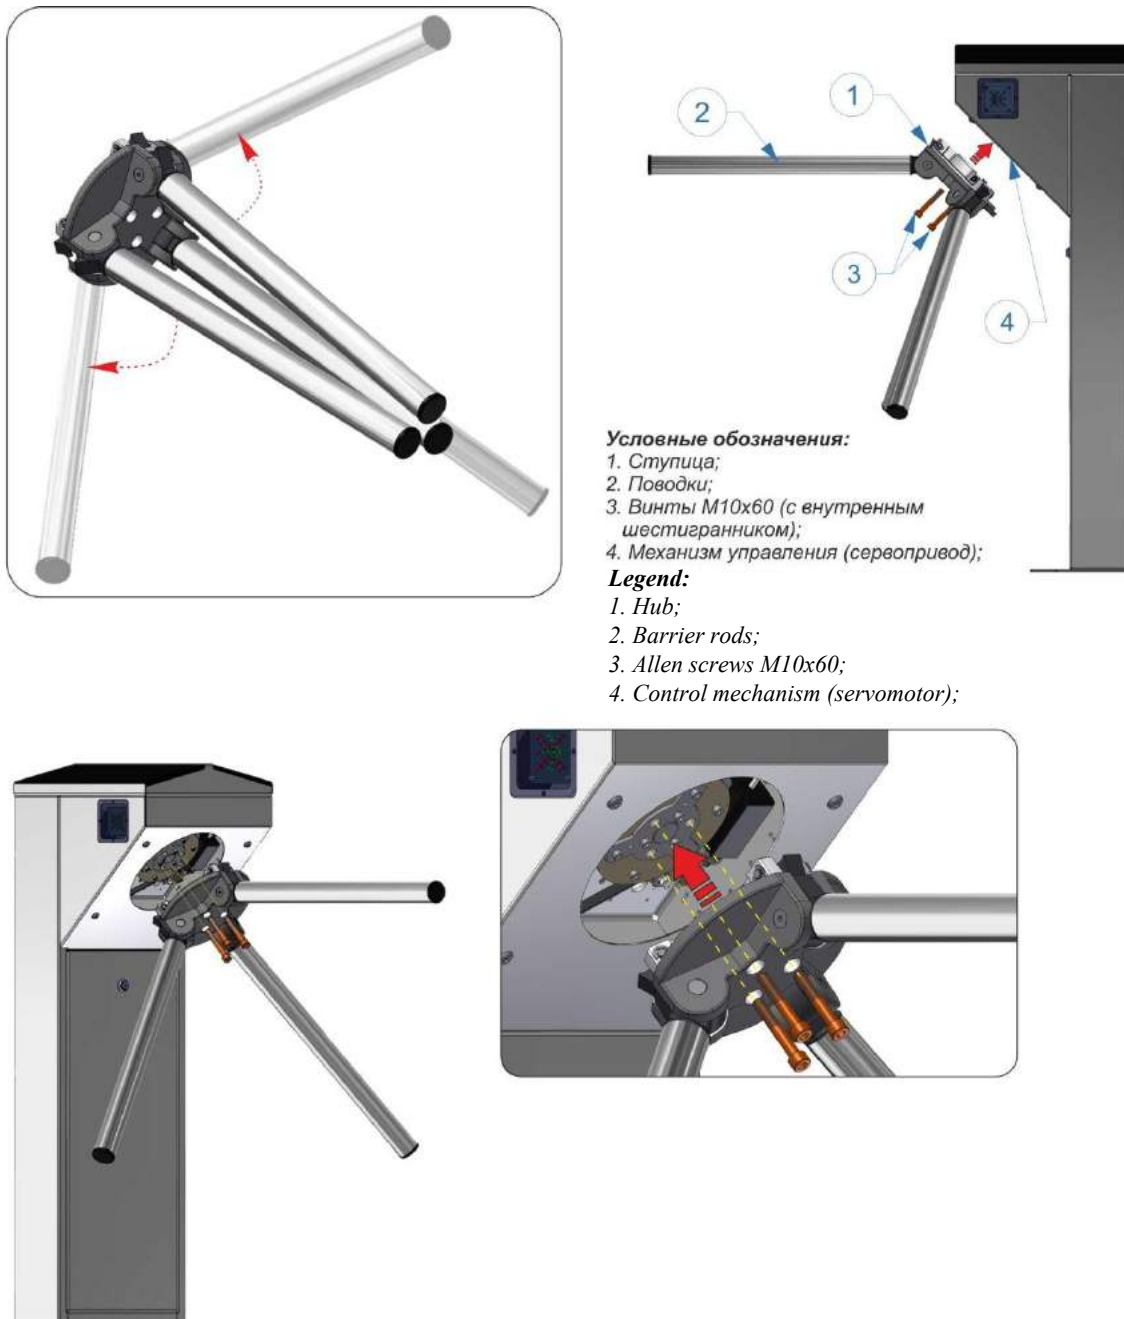

Fig. 14 – Installation of the hub with barrier rods into the tripod turnstile body
a) The hub (1) barrier rods (2) to be set out manually (See Fig. 14).
b) The hub (1) to be mounted on center of the turnstile mechanism (4);